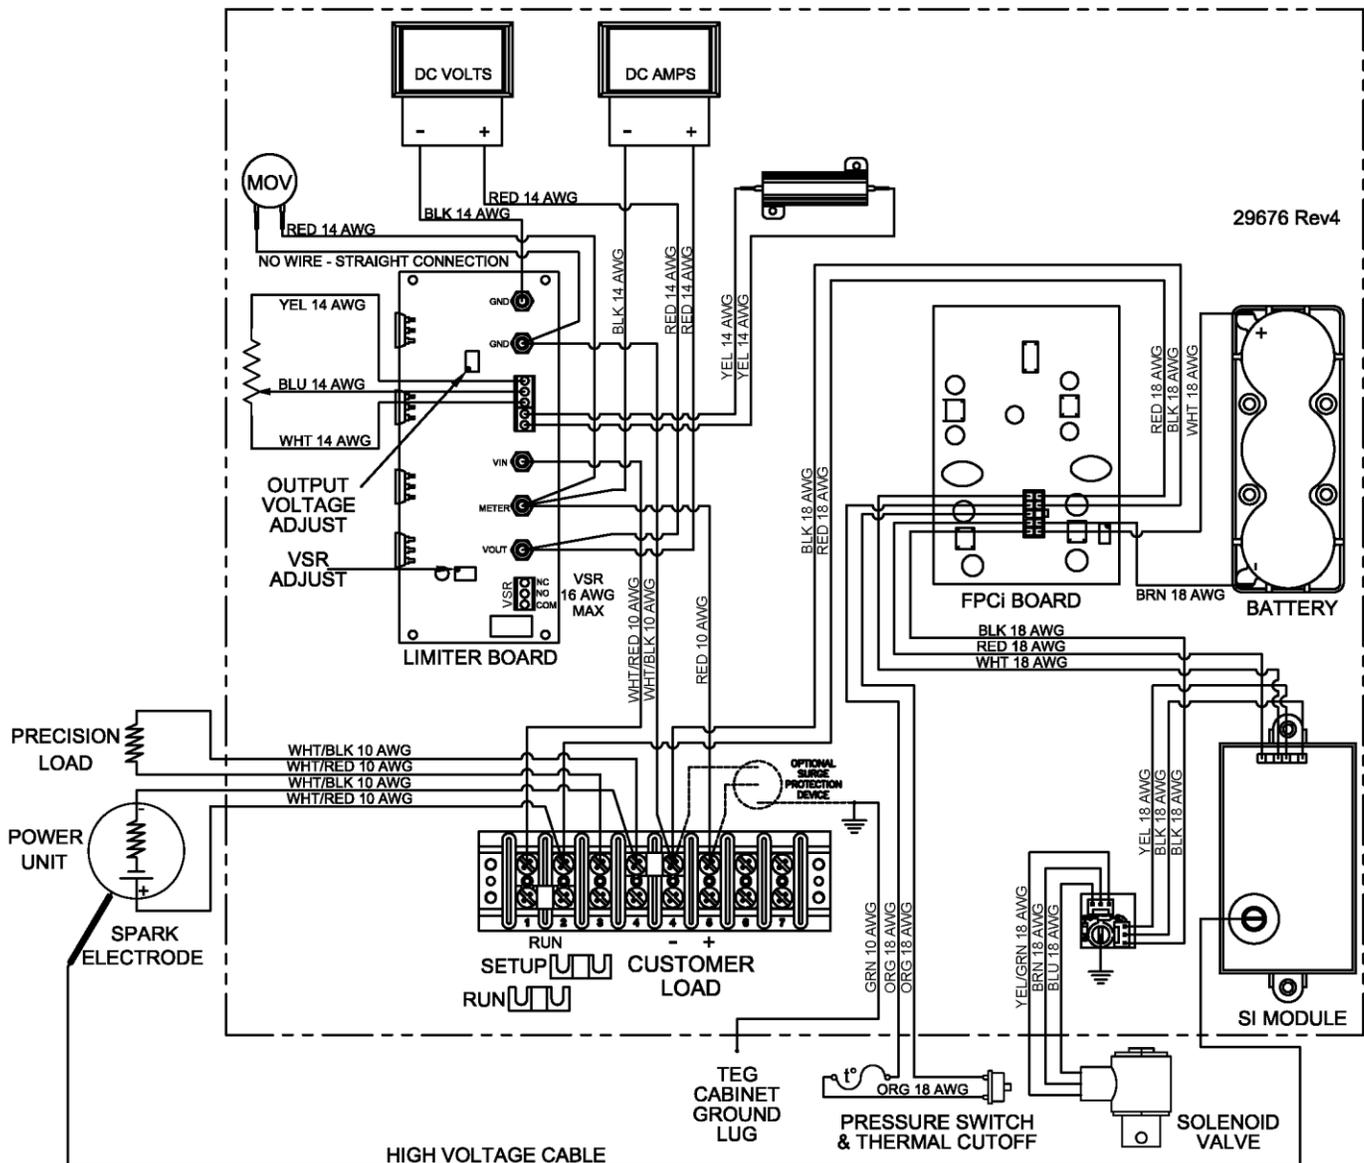
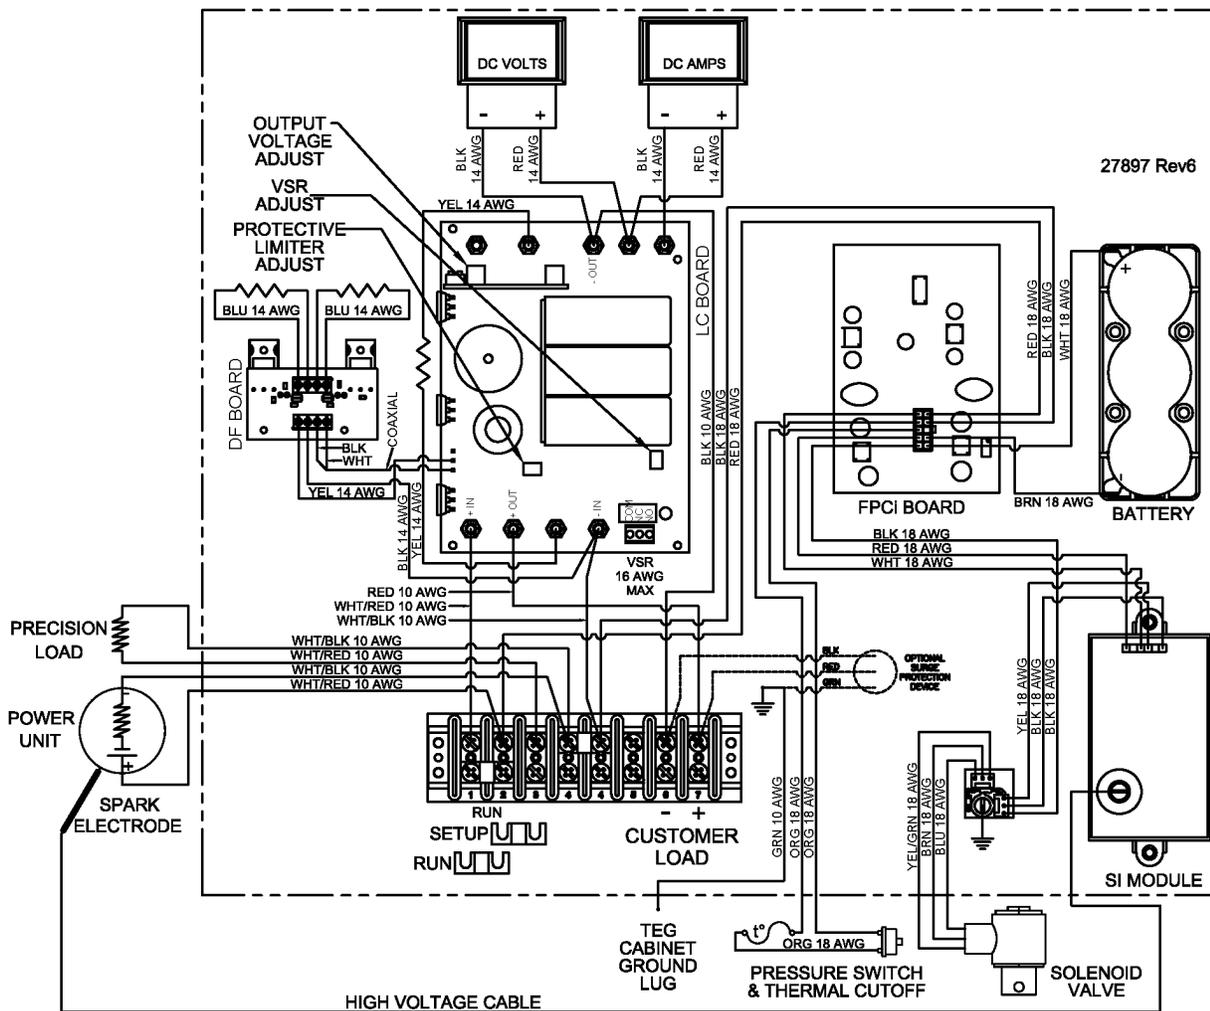

Figure 14 – Wiring Diagram 5220 TEG, with 12 V Limiter Assembly
Figure 15 – Wiring Diagram 5220 TEG, with 24V L/C Assembly
12 V: Connect the load at terminals 5 (+) and 4 (-) (Figure 14).
24 V: Connect the load at terminals 7 (+) and 6 (-) (Figure 15).
3. Connect the L/C wires to TB1 as per Figure 15.
1. Move the jumper on TB1 from the RUN position to the SETUP position, i.e. from between terminals 1 and 2 to between terminals 2 and 3 respectively. See Figure 14 or Figure 15.
V_{set} voltage is measured across terminals 2 and 4 on TB1, with the TEG in SETUP configuration (jumper clip in the setup position across terminals 2 and 3 on TB1, as shown in Figure 14 and Figure 15).
2. Move the jumper clip on the terminal block TB1 to the SETUP position, i.e. between terminals 2 and 3. See Figure 14 or Figure 15.